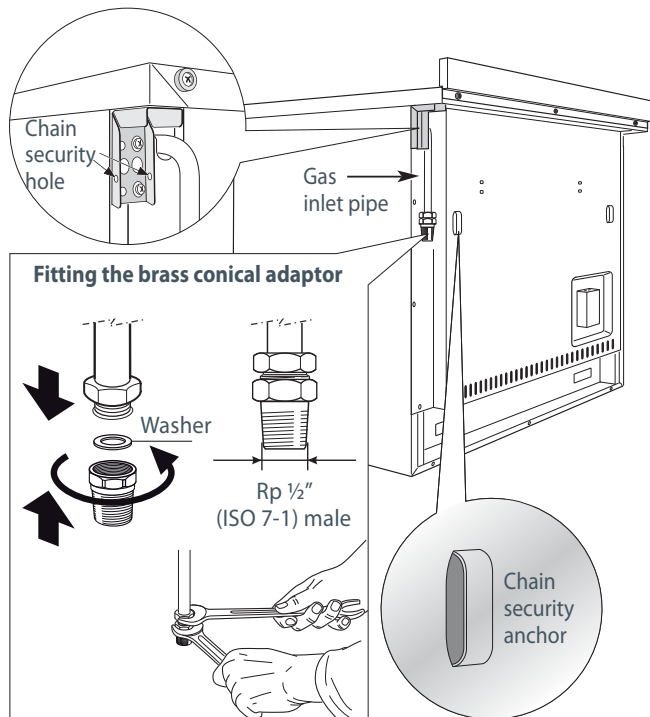

Fig. 14 Gas supply inlet
- **IMPORTANT:** Use two spanners to tighten or loosen the connecting pipe (Fig.14).